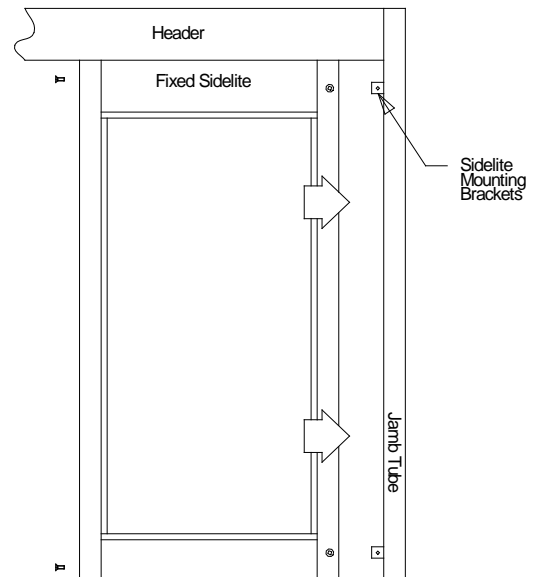

Figure 17
5. Align the back end of the fixed panel with the brackets on the jamb tube. Ensure that no wires are pinched. (See Figure 17)